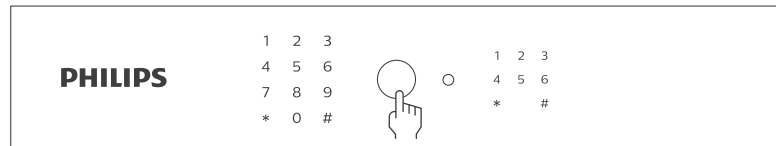

Figure 2
1. Open safe door and press "⌂" on the battery compartment. After hearing a voice prompt "Please enter fingerprint or PIN code", enter your fingerprint as shown in Figure 2. A voice prompt "Fingerprint entering succeeded." indicates successful operation. If the entering fails, there will be a voice prompt "Fingerprint entering failed". The system will automatically exit if there is no entering in 8 seconds.